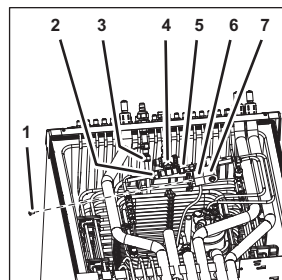

Figure 85
1. Disconnect the plug (Figure 85/6) of the solenoid valve (Figure 85/7) by removing the fastening bolt (Figure 85/1).
2. Disconnect the water input line on the coupling (Figure 85/5) from the T-fitting of the water inlet pressure reducing valve (Figure 85/4).
3. Disconnect the pre-cooling coil from the coupling (Figure 85/2).
4. Disconnect the soda water circulation line (return) from the coupling (Figure 85/3).
27. Attach the soda water circulation line (return) to the coupling (Figure 85/3).
28. Attach the pre-cooling coil to the coupling (Figure 85/2).
29. Attach the water input line on the coupling (Figure 85/5) to the T-fitting of the water inlet pressure reducing valve (Figure 85/4).
30. Attach the plug (Figure 85/6) of the solenoid valve (Figure 85/7) by removing the fastening bolt (Figure 85/1).